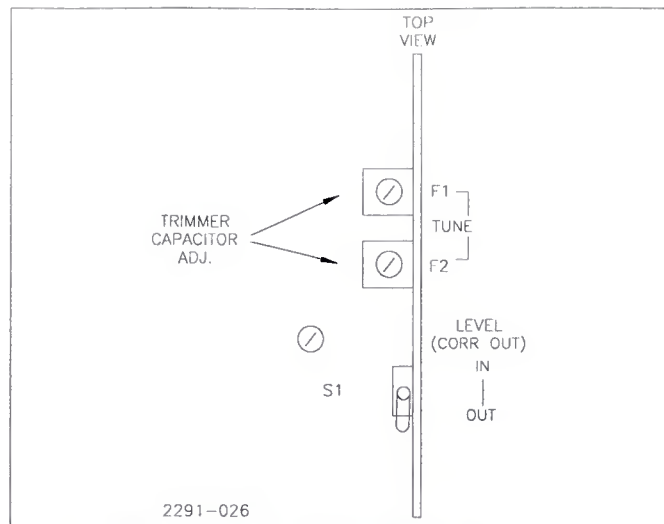

Figure 5-15. Top View of Aural Delay Corrector
- Adjust F1 or F2 trimmer capacitors (see Figure 5-15) one at a time very slowly for best separation. It is good practice to note the starting position of each trimmer by noting the position of the adjustment slot. Typically, only a 1/4 turn on either side of the starting position is all that is necessary to notice a change in separation. Alternately adjust F1 and F2 for best separation.